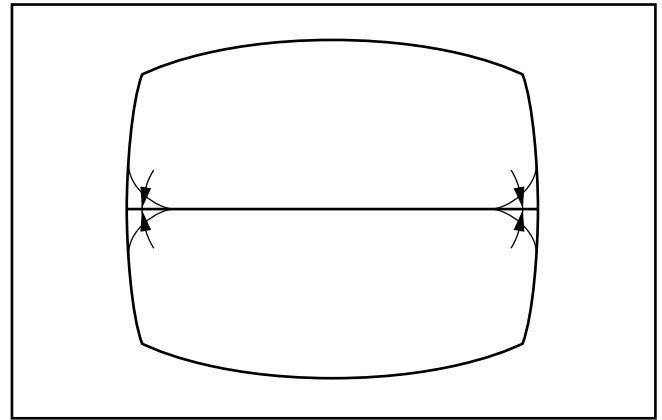

Fig. E10-2
3. Hold Deflection Yoke and wiggle it right to left to correct Crosshatch Pattern position (Refer to Fig. E10-2).